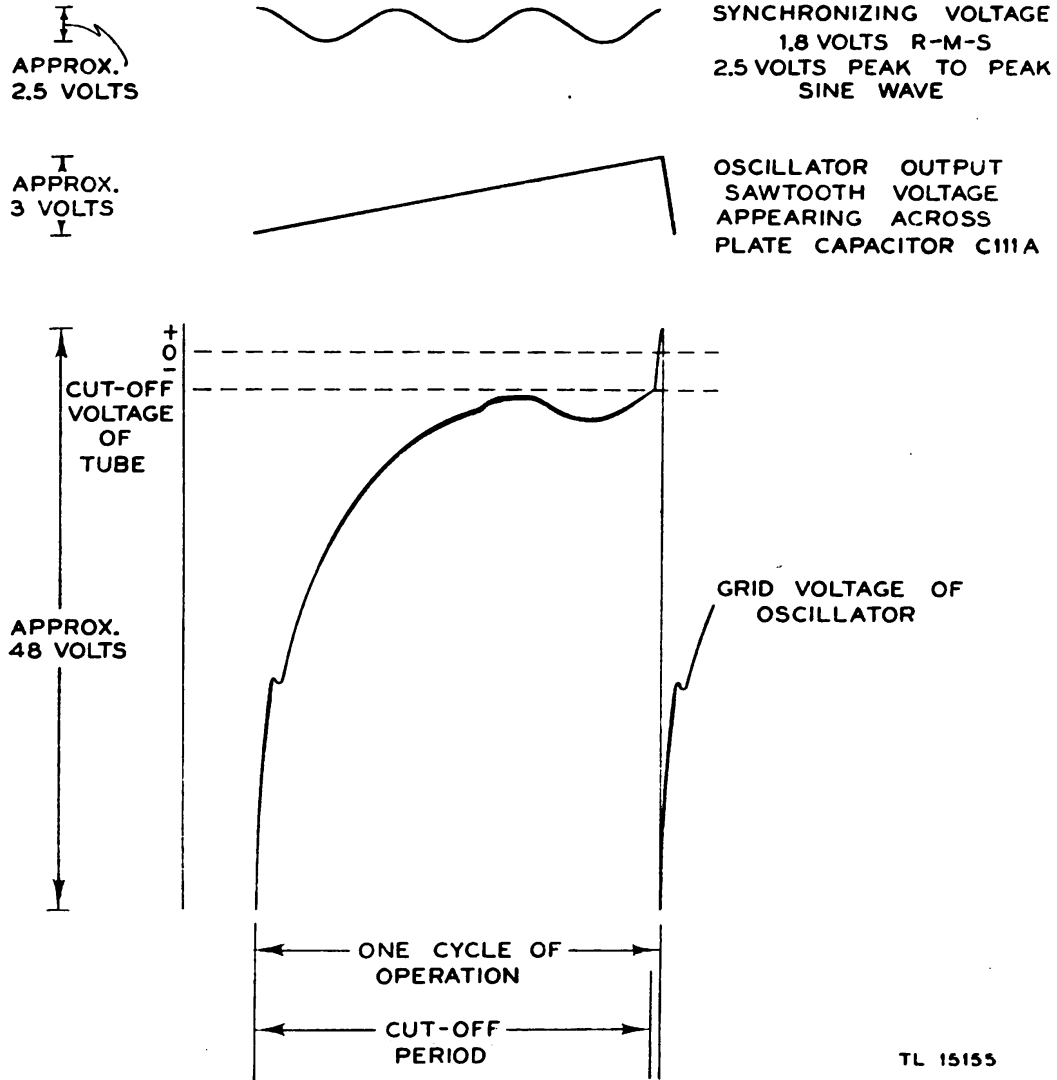

Figure 16. Actual current and voltage waveforms of blocking oscillator.
frequency of the power source. R137 is usually adjusted so that conduction takes place at a frequency one half or one third that of the power source. For example, if the power source is 60 cycles per second the frequency of conduction may be adjusted to 20 cycles per second. If so, three cycles of the synchronizing voltage will occur during each complete cycle of operation (fig. 16). Without an applied synchronizing voltage during the cut-off period, the voltage on the grid of the tube will increase approximately 48 volts from its most negative point before plate current flows. The application of the small amount of a-c synchronizing voltage superimposed on the normal grid voltage forms a resultant grid voltage equal to the algebraic sum of the two voltages. When the synchronizing voltage is passing through its three negative half-cycles, the rate of increase of grid voltage is slowed down. When the synchronizing voltage is passing through its positive half-cycles, the rate of increase of grid voltage is speeded up. While the synchronizing voltage is passing through its first two cycles, it will not cause plate current flow since the resultant grid voltage is still below cut-off. During the positive swing of its third cycle, however, the resultant voltage is sufficient to start the flow of plate current. In this way, the superimposition of the synchronizing voltage on the normal grid voltage causes the plate current to flow periodically in synchronism with a submultiple of the frequency of the power source. This action of the synchronizing voltage is called "triggering".
(9) Actual waveforms are shown in figure 16. The time consumed by the rise and fall of plate current is determined by the inductance and resistance of the transformer. The time between pulses is determined primarily by the value of resistance and to some extent by the capacitance in the grid circuit. When these RC grid circuit constants are correct, the synchronizing voltage will cause periodic recurrence at the desired frequency. The superimposition of the synchronizing voltage can be observed in the grid voltage waveform shown in figure 16. Note the rises and dip in grid voltage just before the time of plate current flow.